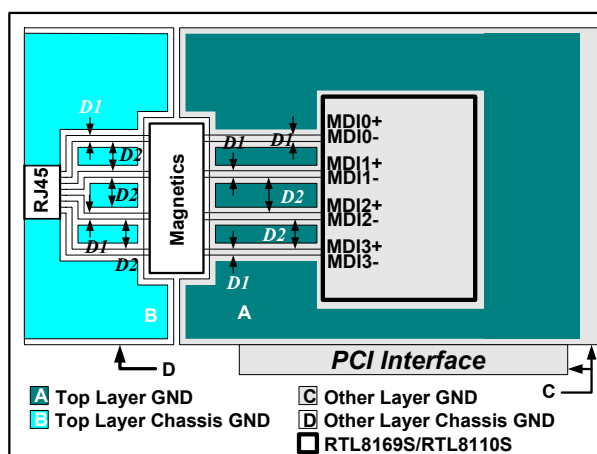

Figure 2. Signal & Trace Routing
- Traces routed from the RTL8110S/RTL8169S to the 10/100/1000M Magnetic, and to the RJ-45 connector should be as short as possible. The 12cm maximum length between the RTL8110S/RTL8169S and Magnetic is achievable only when there is no interference. It is also very important to keep all four differential pair signal traces (MDI0+/-, MDI1+/-, MDI2+/-, MDI3+/-) equal in length. The two traces of each pair should be placed close to each other (D_1) since they are differential pair signals to each other and provide a strong canceling effect on noise. The D_1 can be the width of each of the two differential traces. E.g., if the width of the trace is eight mils, then D_1 can be 8 mil wide. (Figure 2)
- We also suggest that there should be more than 50 mil spacing between different differential pairs to minimize cross-talk coupled from other pairs. (D_2 in Figure 2) In addition, Ground Plane shielding can be used to separate all four signal pairs. However, a good layout should avoid the following situations: